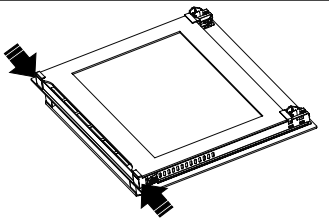
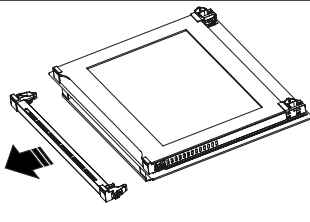
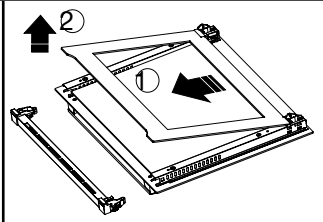

Figure 137
Figure 138
Figure 139
**1.** Press the plastic latches on the left and right side as shown in figure 137 and lift the profile by pulling it towards you as shown in figure 138. Glass is free after the profile is removed as shown in Fig. 139. Carefully pull the glass that has become free toward you. If necessary, the central glass can be removed in the same way. The outer glass is fixed to the oven door profile. You may easily clean the glasses after they have been separated. Once the cleaning and maintenance is complete, you may replace the glasses and the profile by performing the removal procedure in reverse. Make sure that the glass is inserted in the correct direction and that the profile fits properly.